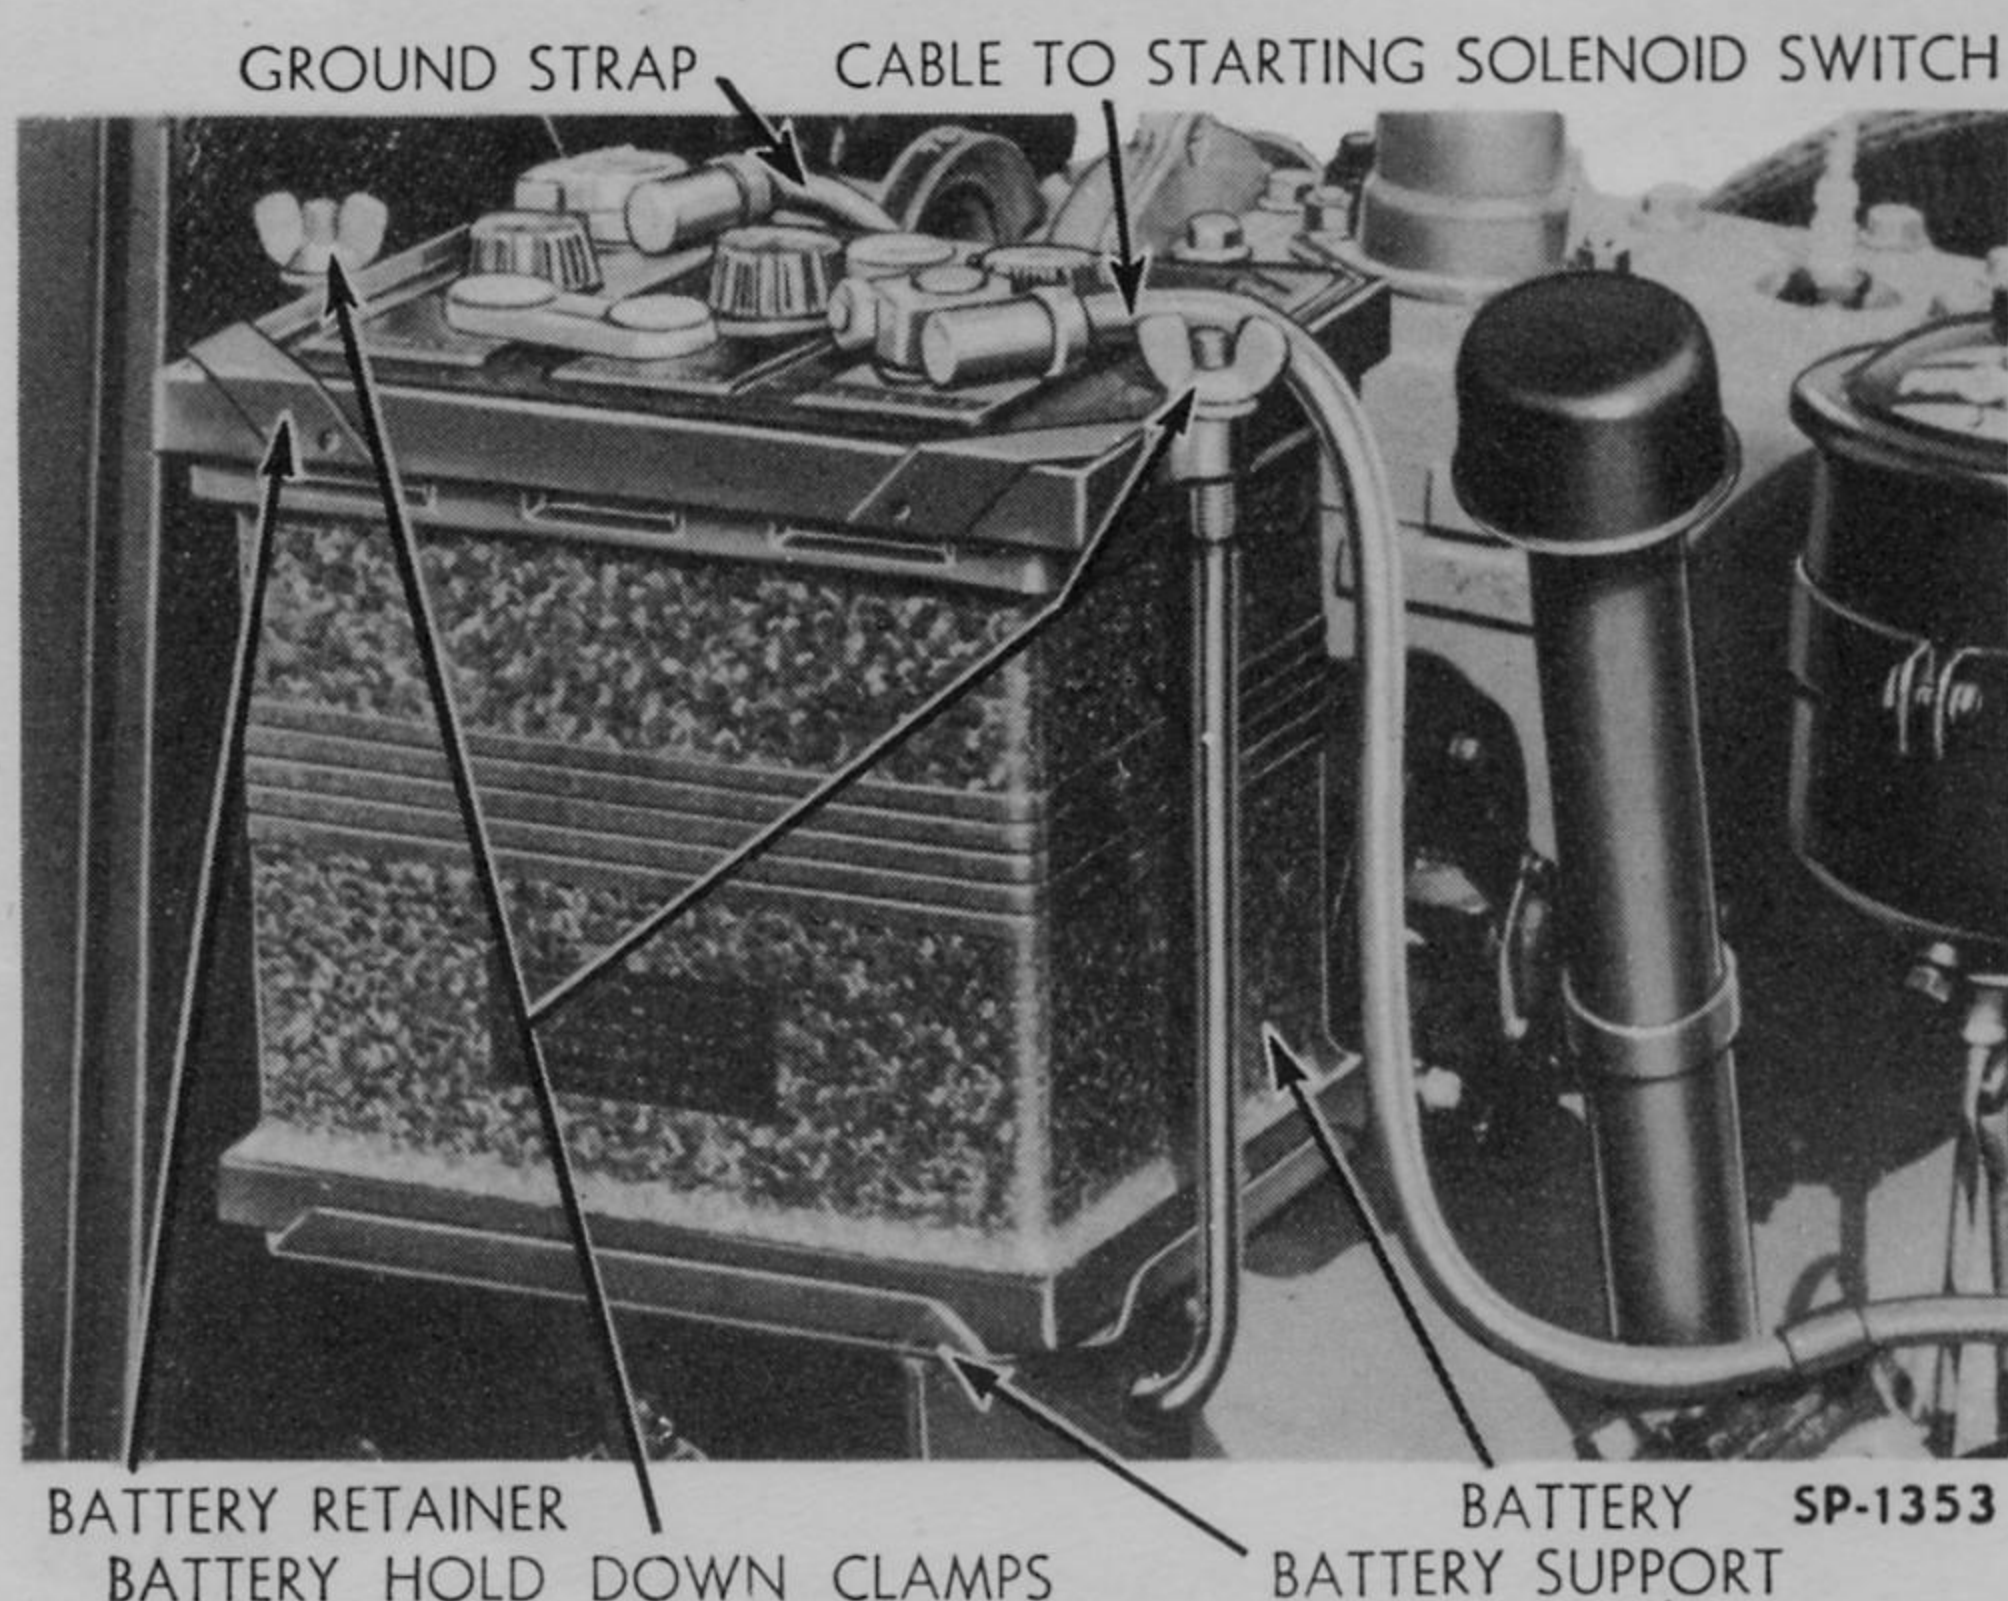

Fig. 384—Battery Installation—Frazer
a. GENERAL INFORMATION. The battery is mounted on a steel support, under the hood, and is fastened down by a retainer held by two wing nuts. The Kaiser battery mounting is similar to the Frazer shown in Fig. 384. The battery provides electrical energy to the starting motor and the ignition system to start the engine. With the engine running at normal speeds the generator should satisfy the electrical requirements of the ignition system, lamps and various accessories. When the engine is stopped,
e. BATTERY REPLACEMENT (Fig. 384). To remove the battery, disconnect the positive and negative cables; remove the retainer wing nuts and lift off the battery retainer. Then lift the battery from the support. When installing a battery be certain that the posts and cable terminals are clean, and terminal clamps tight. Follow the directions given under **BATTERY INSPECTION AND MAINTENANCE** for cleaning and coating with petrolatum or grease.